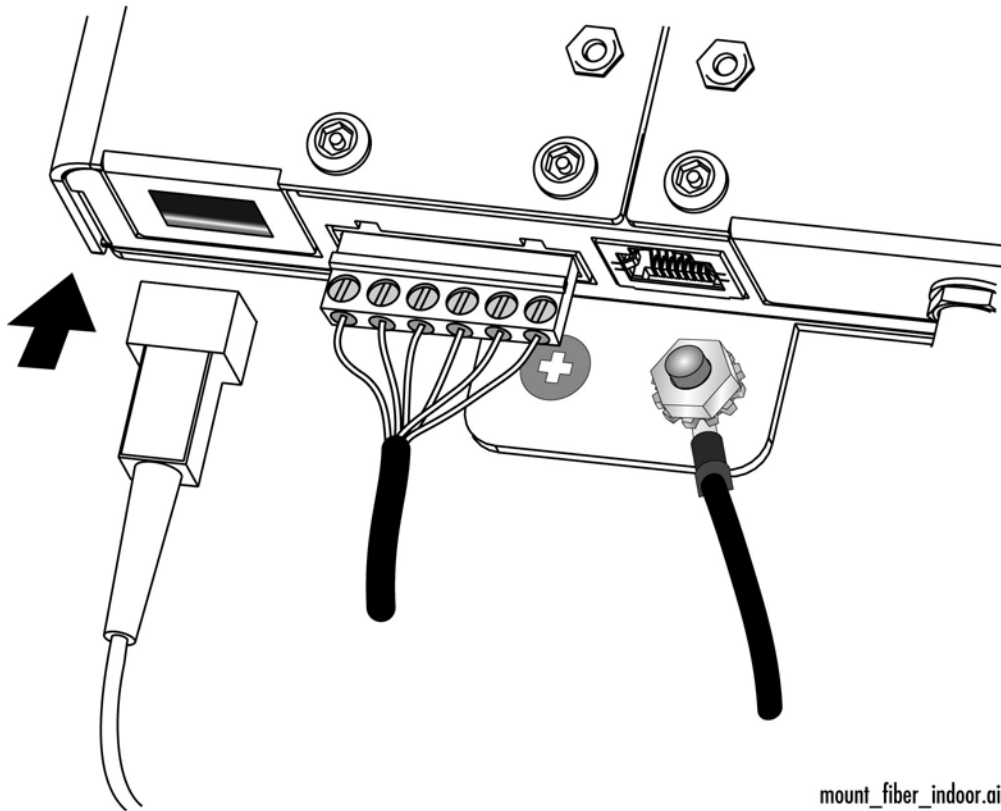

Figure 19. Connecting the Fiber Optic Cable
2. Connect the pigtail cable to the fiber optic port on the gateway, as shown in Figure 19